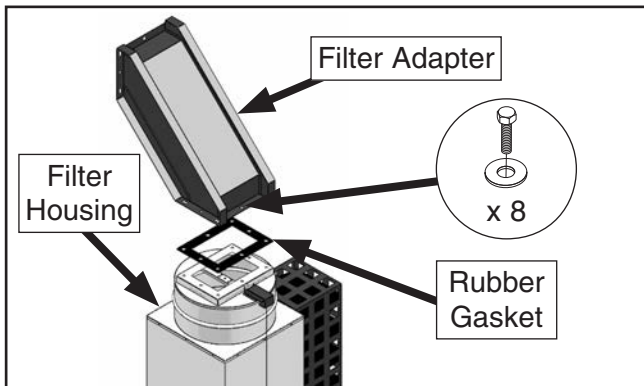

Figure 21. Attaching filter adapter to filter housing (wall-mount).
- Attach rubber gasket to top of HEPA filter housing (see **Figure 21**), then secure filter adapter to housing using (8) $\frac{5}{16}$ "-18 x 1" hex bolts, and (8) $\frac{5}{16}$ " flat washers.